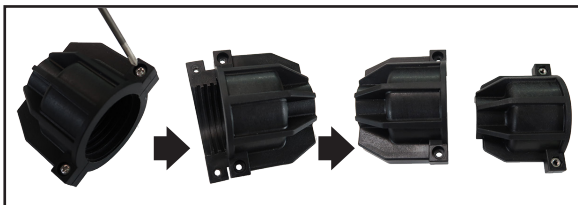

Figure 1-4: Open the nut component
- 3 Loosen the two screws of the nut component, then open the nut component (Figure 1-4).